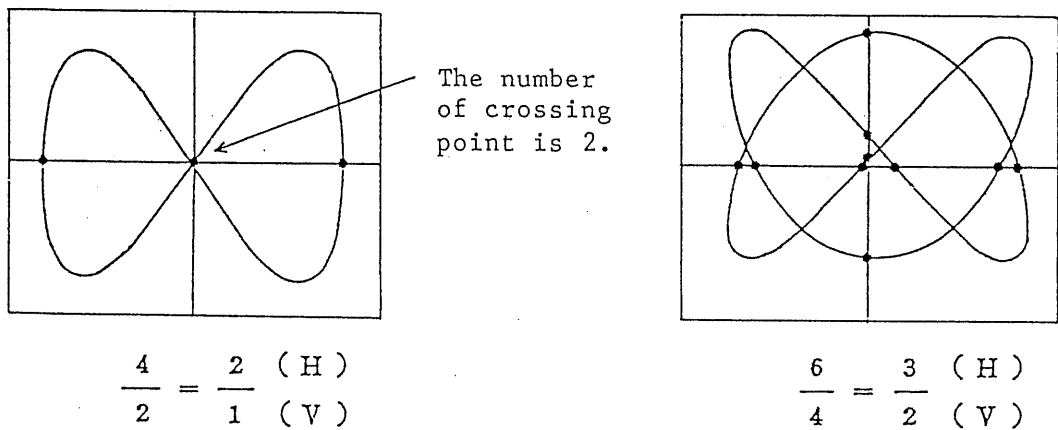

figure 5-5
- o Frequency measurement with Lissajous figure (See Figures 5-5 and 5-6):
Adjust the required controls in such a way that a pattern is displayed on the overall surface of the CRT screen. Then adjust the frequency of the signal generator so that the displayed pattern becomes stationary as shown in Figure 5-5. From the displayed waveform, the unknown frequency can be calculated as follows: